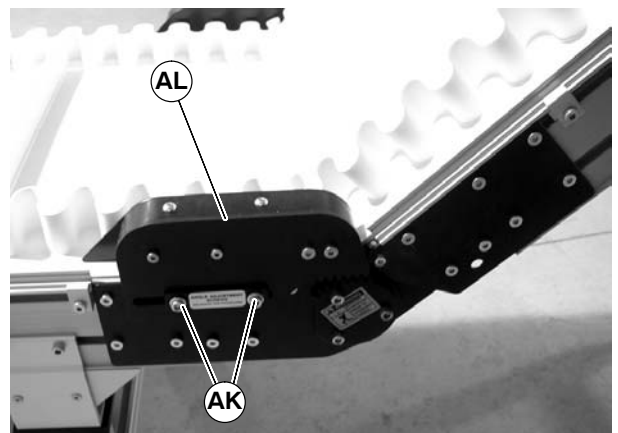

Figure 24
5. If equipped, remove screws (AK of Figure 24) and remove lower knuckle return roller assembly (AL) on both sides of conveyor, note the position of the meshing teeth.